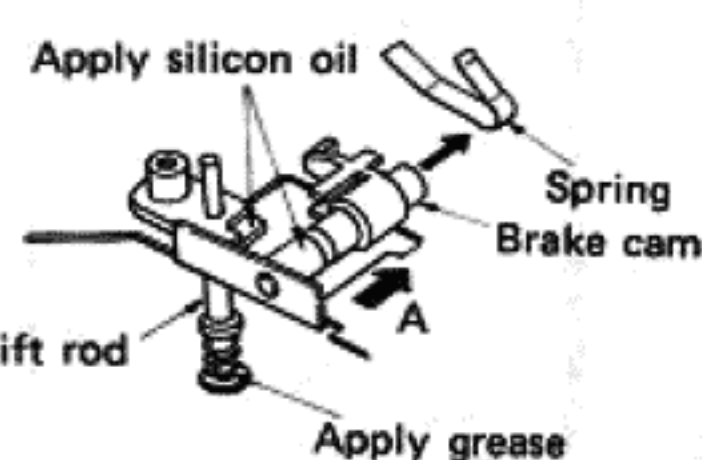

Fig. 11
3. Move the brake cam in the direction of the arrow A. (Fig. 11)
4. Apply silicon oil (SH097) to the outer surface and groove of the brake cam shaft. (Fig. 11)